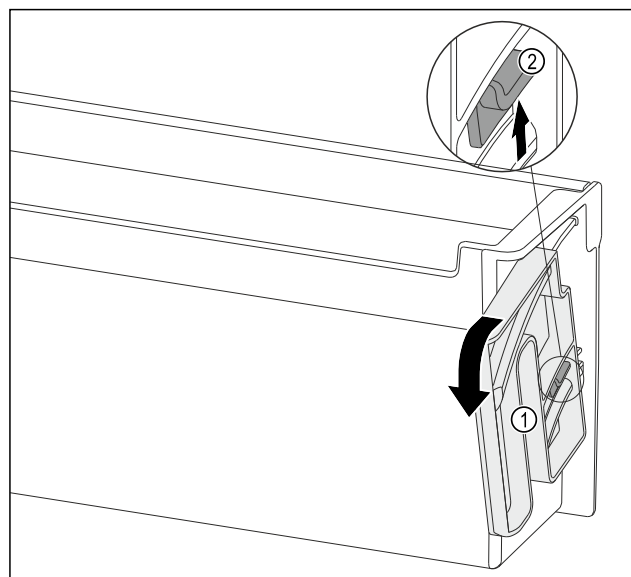

Fig. 95
- Turn the turning unit Fig. 95 (1) in the specified direction to the end stop.
- Press the tab Fig. 95 (2) up and remove the turning unit Fig. 95 (1).